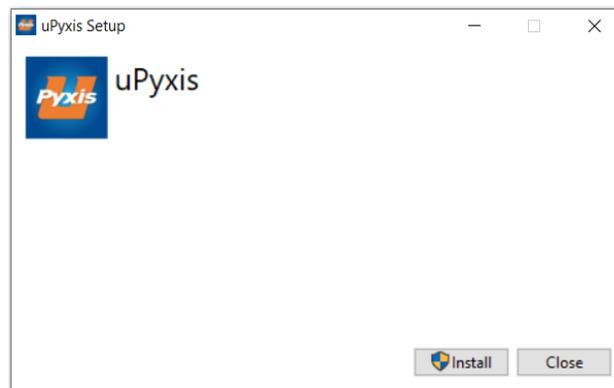

Figure 9. uPyxis® Desktop App installation
3. On uPyxis® Desktop App, click Device → **Connect via USB-Bluetooth** (Figure 9).
4. If the connection is successful, the ST-712SS and its Serial Number (SN) will be displayed in the left pane of the uPyxis® window.